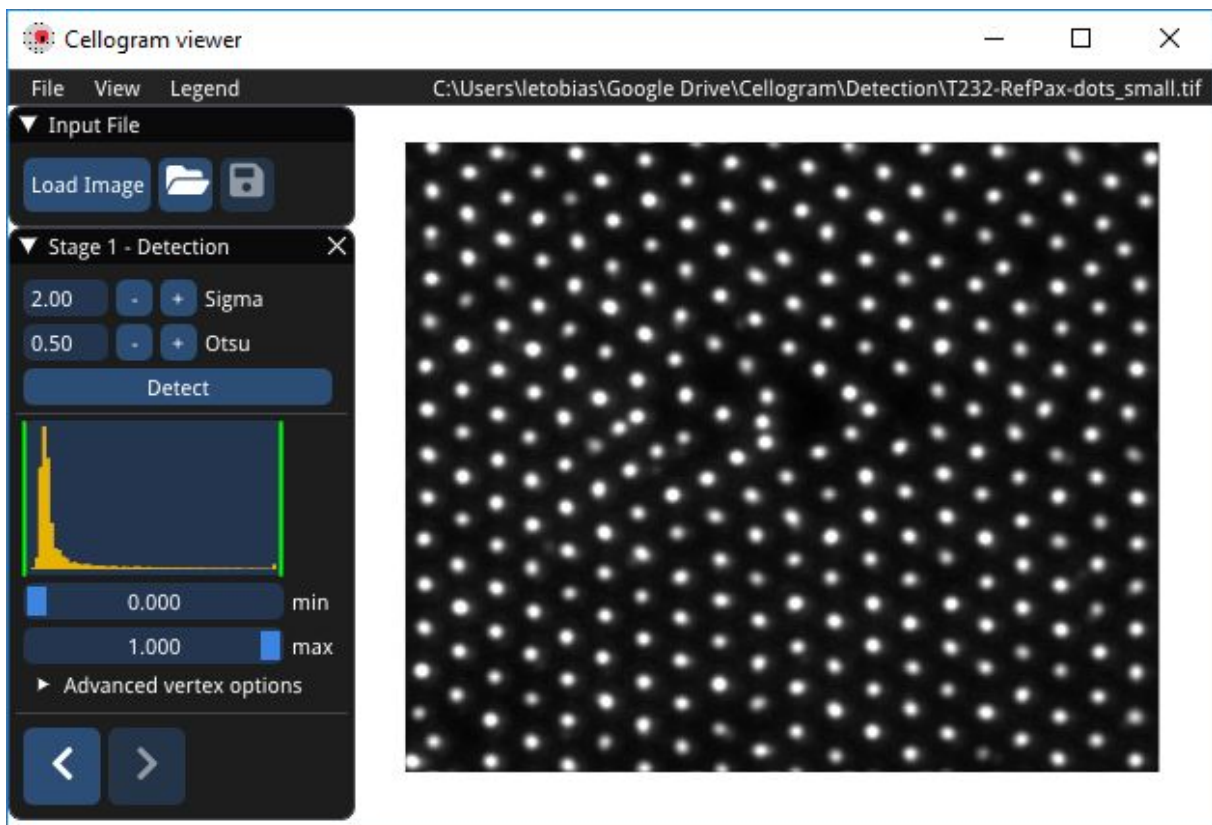
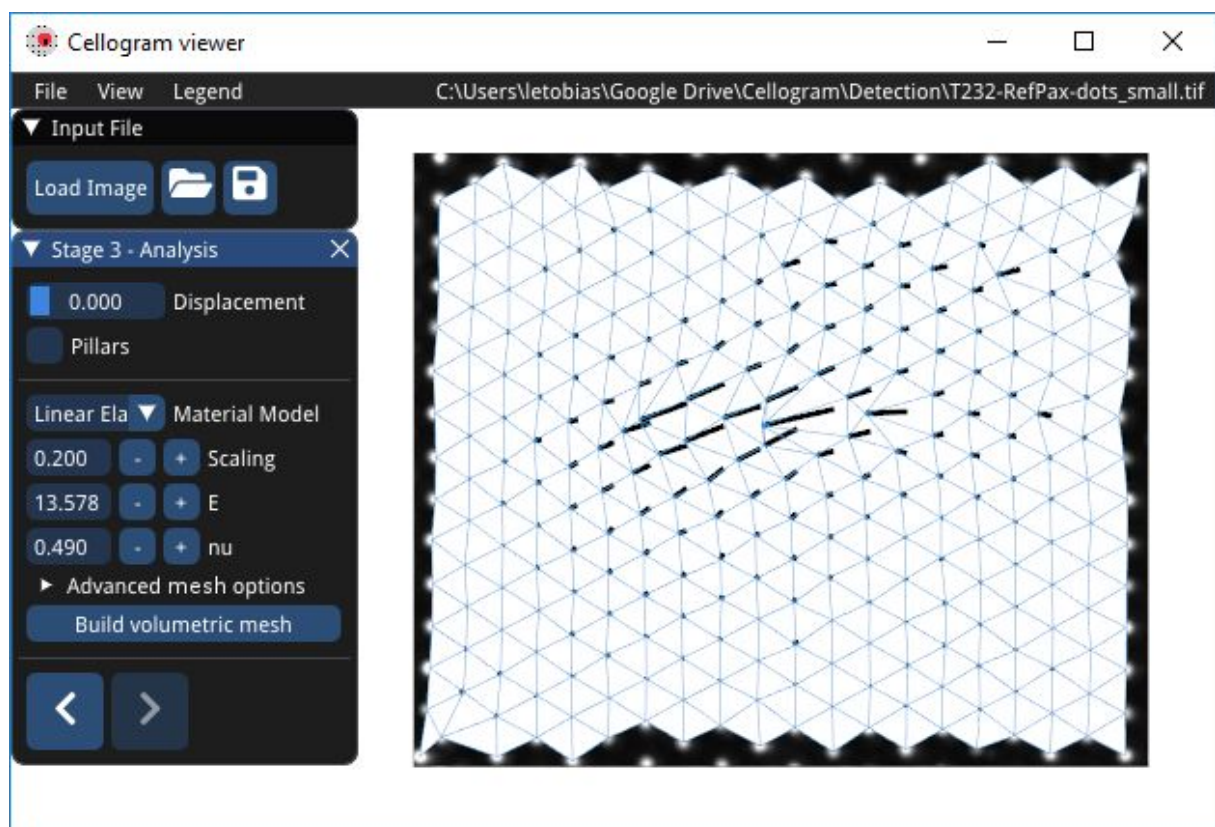

Figure 1. Stage 1 - Detection
Figure 2. Stage 3 - Analysis
The mouse navigates in the user interface (UI). Right click and drag moves the field of view. The mouse wheel zooms in and out. When Cellogram starts up there is no image loaded. First, click on the “Load Image” in the UI or select “File” → “Load Image” (Figure 1. Stage 1 - Detection). Navigate to a grayscale image in Portable Network Graphics (png) or Tagged Image File Format (tiff) format and select and load the image. The image should appear as seen in the screenshot in Figure 1.
The connectivity of the mesh is found by clicking on the right arrow button in “Stage 1 – Detection” menu (Figure 1). If the meshing step finds missing or surplus markers, it fixes them. Removed markers are marked orange, while added markers are green. Should there be added marker, the user has the option to move the added marker to the correct position by clicking “Move vertex” in the “Stage 2 – Meshing” menu before proceeding. Next click on the right arrow button to relax the mesh and find the reference position. The displacements become visible (Figure 2).
For the finite element analysis (FEA) enter the material parameters in the “*Stage 3 – Analysis*” menu. Hover the fields to get information on the individual fields and units. Next click “*Build volumetric mesh*” to generate a finer mesh for the analysis (*Figure 2*). The density of the mesh is tuned in the “*Advanced mesh option*” see Section 4 for details. Once the mesh is available, click the right arrow button to start the FEA.